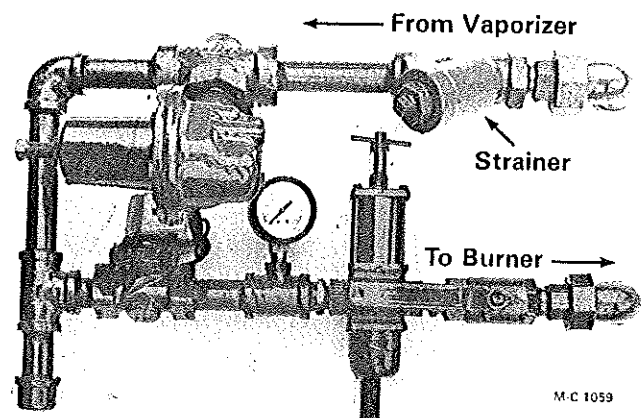

Figure 31
6. **LP Gas** - Remove the plug at the end of each strainer, see Figure 31. Remove and clean the screen in each strainer. Check flexible LP inlet hose for signs of fatigue, replace if necessary.